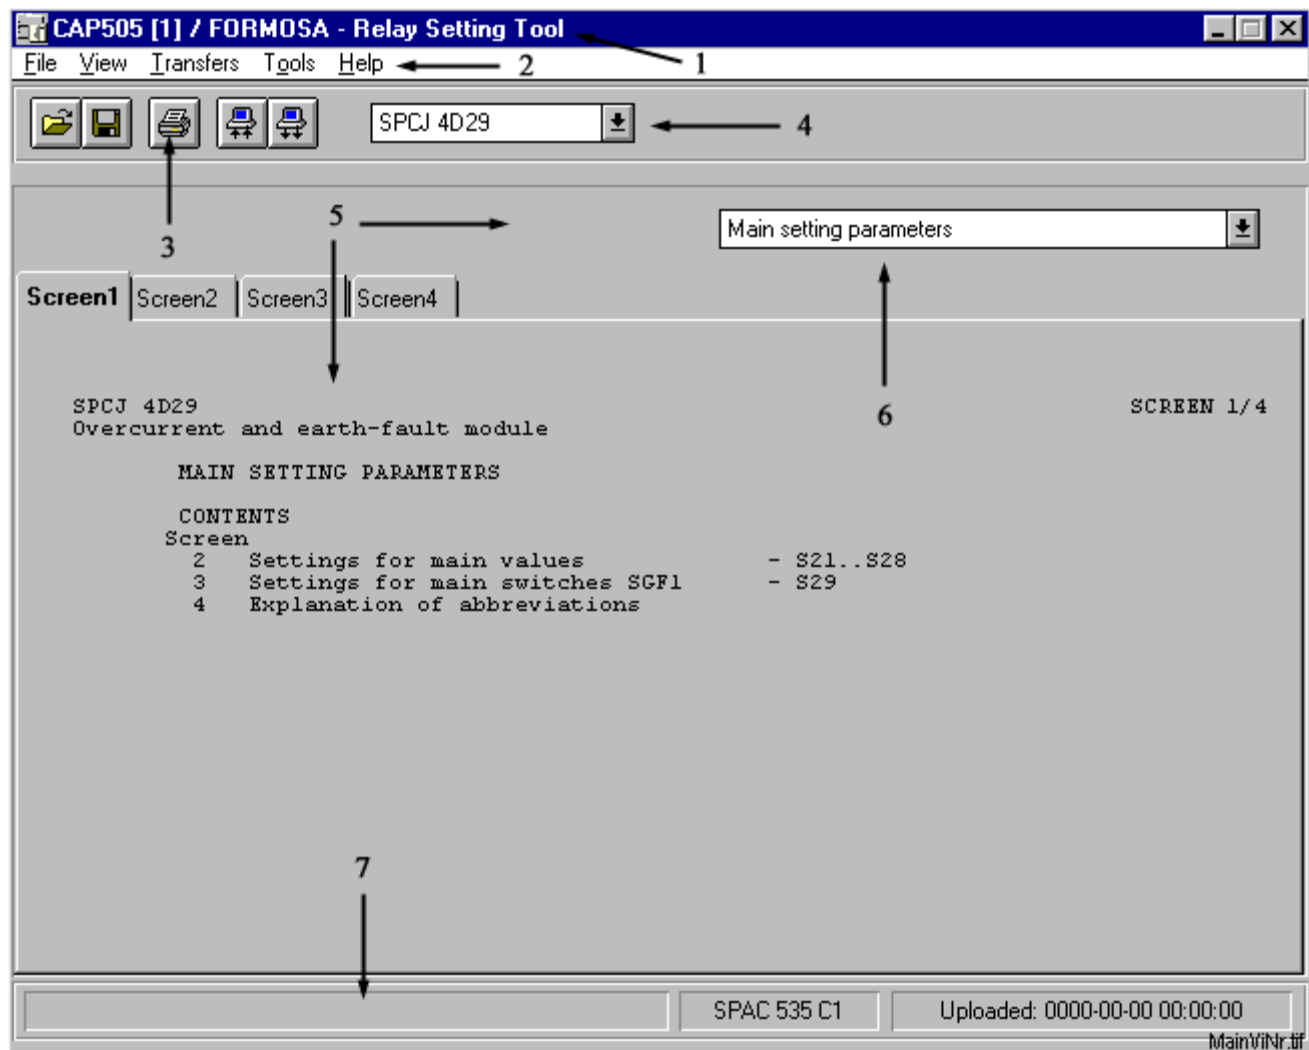

Fig. 3.3.1.-1 Relay Setting Tool main overview
The Relay Setting Tool automatically selects the first module of the relay to the module list (see Fig. 3.3.1.-1, item 4) and the first parameter group item from the parameter group list (see Fig. 3.3.1.-1, item 6). After that the tool opens the data for selections.